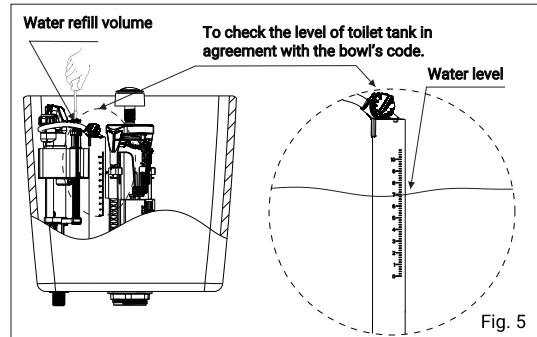

Fig. 5
- To check the water level in toilet tank, check the column "Water level in the graduated scale" and the figure 5.
To adjust the water level, turn the inlet tower bolt clockwise to increase the flow. To decrease the flow, turn it counter-clockwise. Fig. 5.